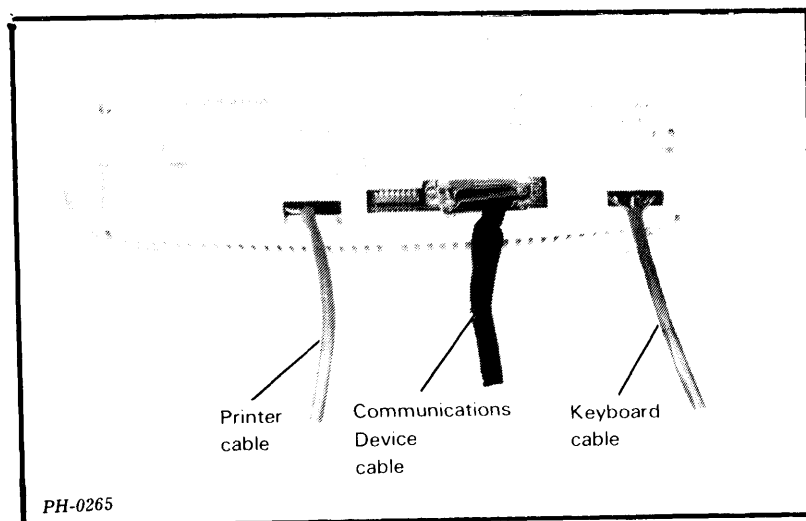

Figure 8.11 External cables
2. Unplug the following cables from the rear of the display (see figure 8.11):